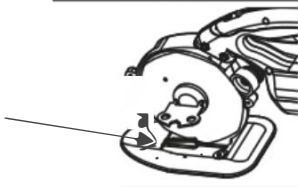

Figure 4.
2. Align the positioning holes on the blade with the positioning holes on the back cushion (Figure 4).